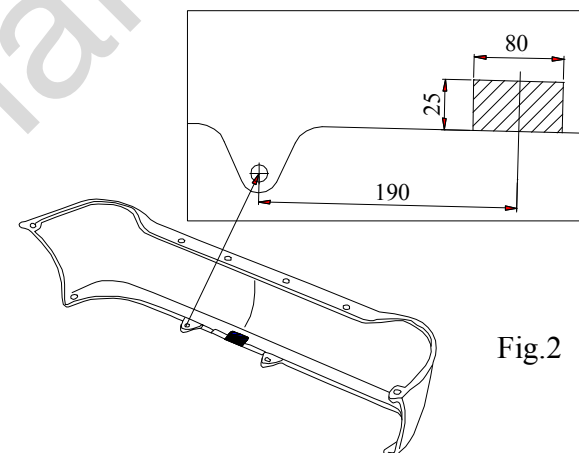

Fig.2
4. Reassemble the muffler and the bumper after cut out his fragment (see fig. 2).
6. Fix the socket plate (pos. 3) as shown on the drawing.